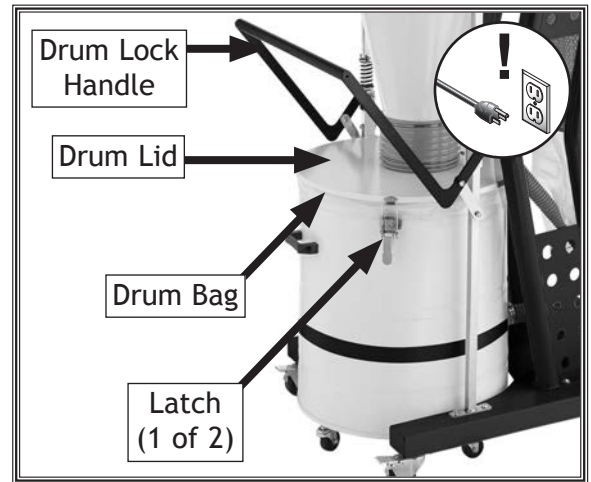

Figure 58. Collection drum bag components.
2. Lift drum lock handle to lower collection drum onto casters (see **Figure 58**).
3. Release both latches on sides of drum, then roll drum clear of drum lid (see **Figure 58**).